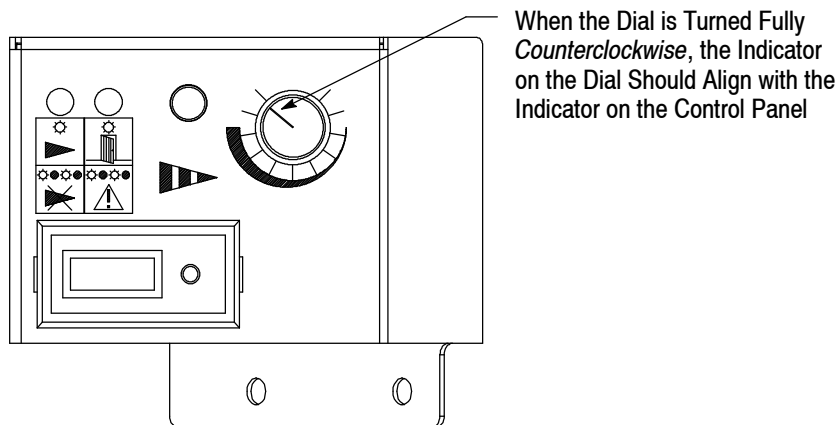

Figure 27
- e. Position and tighten the locking screw of the larger dial button on the shaft of the switch so that when the dial is rotated fully *counterclockwise*, the indicator on the dial is aligned with the indicator on the silk screen as shown in Figure 27.